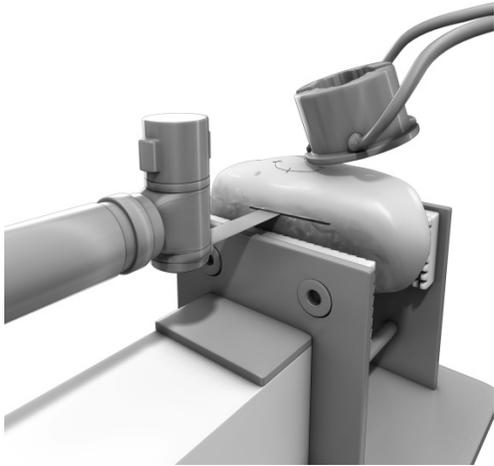
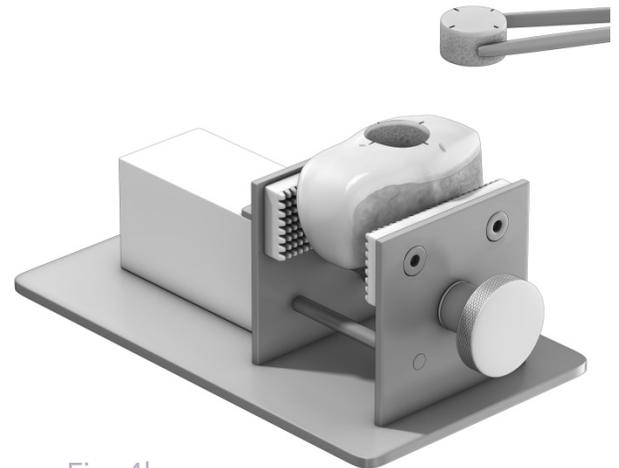

Fig. 4a
Fig. 4b
**Step 12:** Remount the allograft on the vise with the plug in a vertical position. Remove the push-out plate and guide pin. The plug is excised by transecting the allograft with an oscillating saw approximately 20 mm below the cartilage surface. To prevent abrupt dislocation or propelling of the plug, either place a finger or graft holder on the surface of the allograft (Fig. 4a). Remove the plug from the condyle (Fig. 4b).